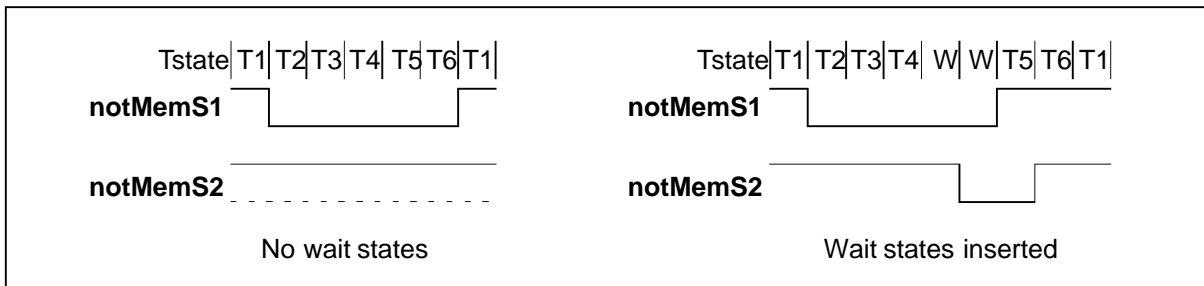

Figure 6.6 IMS T805 effect of wait states on strobes
**notMemS2**, **notMemS3** and **notMemS4** are identical in operation. They all terminate at the end of **T5**, but the start of each can be delayed from one to 31 periods **Tm** beyond the start of **T2**. If the duration of one of these strobes would take it past the end of **T5** it will stay high. This can be used to cause a strobe to become active only when wait states are inserted. If one of these strobes is configured to zero it will never go low. Figure 6.6 shows the effect of **Wait** on strobes in more detail; each division on the scale is one period **Tm**.